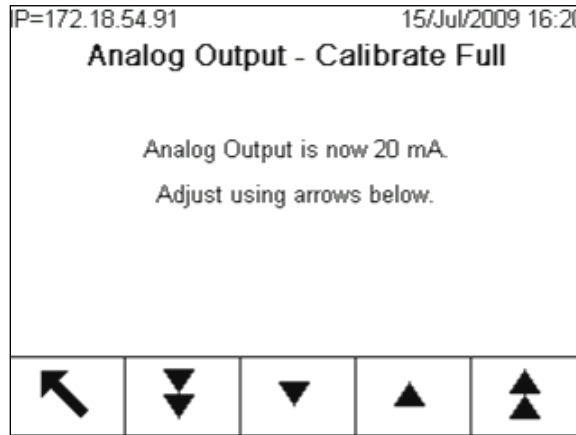

Figure 3-138: Analog Output – Calibrate Full Screen
10. At the **Analog Output - Calibrate Full** screen (Figure 3-138), use the softkeys to adjust the analog output signal to be exactly what the customer's device requires for its high limit. The available softkeys are described in Table 3-11.